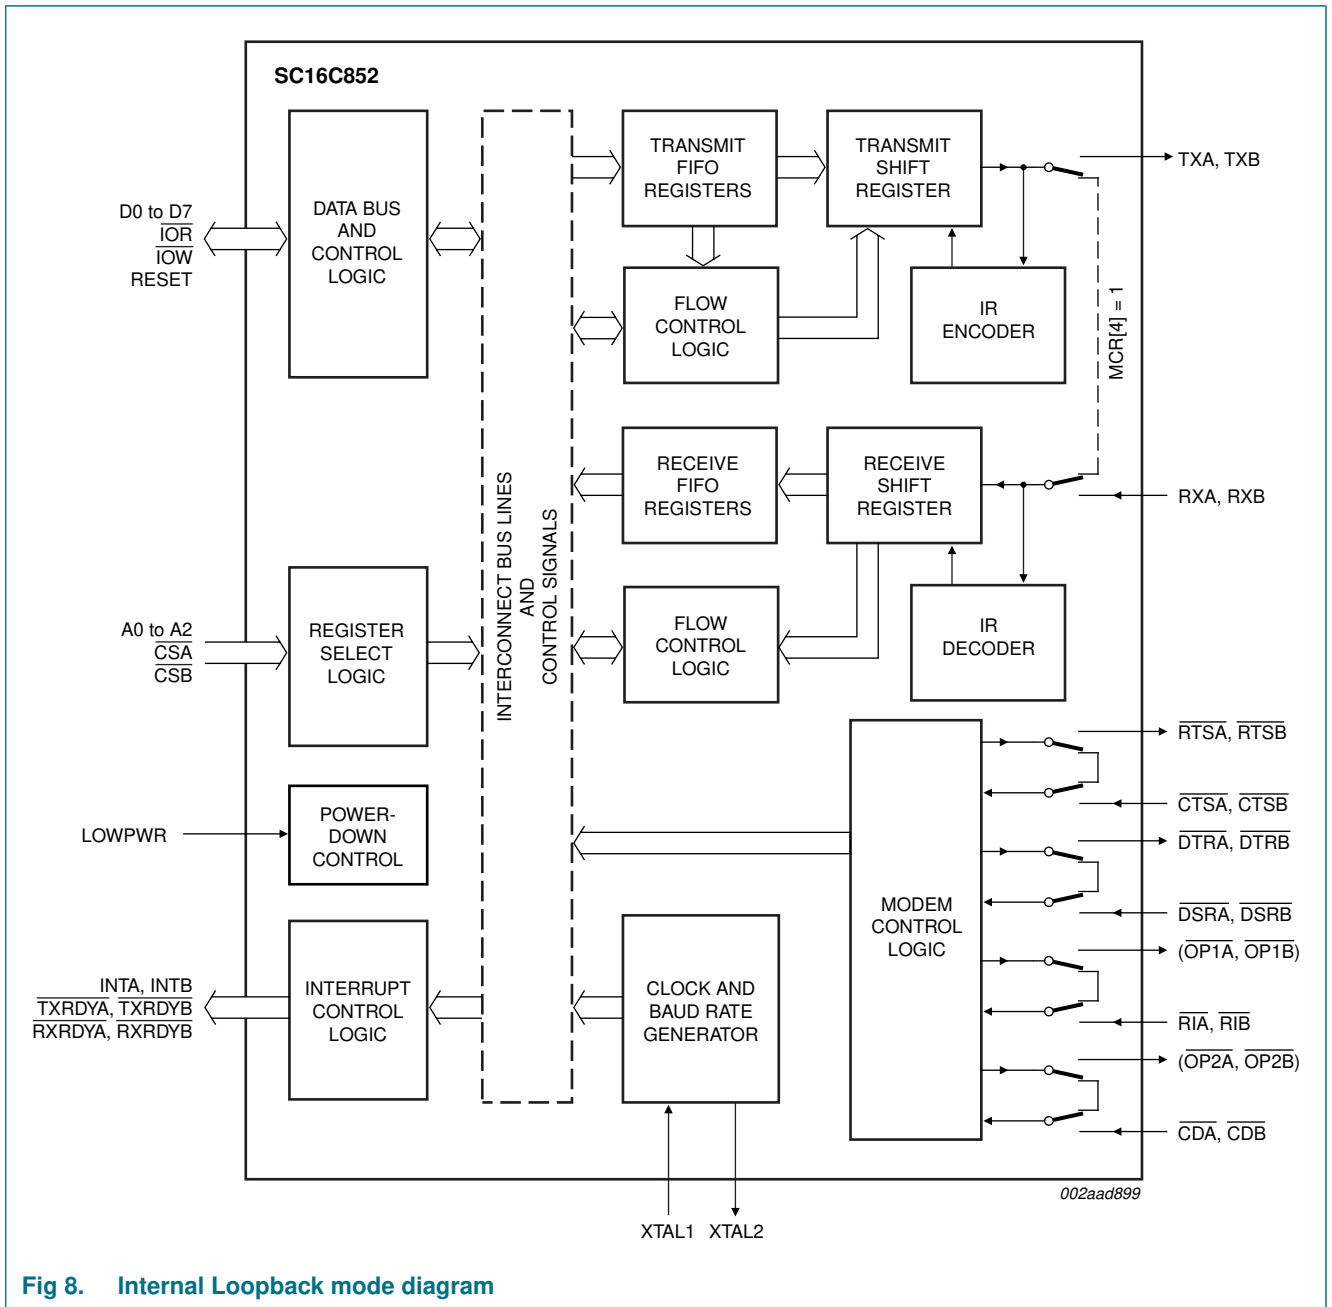

Fig 8. Internal Loopback mode diagram
The internal loopback capability allows on-board diagnostics. In the Loopback mode, the normal modem interface pins are disconnected and reconfigured for loopback internally (see Figure 8). MCR[3:0] register bits are used for controlling loopback diagnostic testing. In the Loopback mode, the transmitter output (TX) and the receiver input (RX) are disconnected from their associated interface pins, and instead are connected together internally. The $\overline{\text{CTS}}$, $\overline{\text{DSR}}$, $\overline{\text{CD}}$, and $\overline{\text{RI}}$ are disconnected from their normal modem control input pins, and instead are connected internally to $\overline{\text{RTS}}$, $\overline{\text{DTR}}$, MCR[3] ($\overline{\text{OP2A}}/\overline{\text{OP2B}}$) and MCR[2] ($\overline{\text{OP1A}}/\overline{\text{OP1B}}$). Loopback test data is entered into the transmit holding register via the user data bus interface, D[7:0]. The transmit UART serializes the data and passes the serial data to the receive UART via the internal loopback connection. The receive UART converts the serial data back into parallel data that is then made available at the user data interface D[7:0]. The user optionally compares the received data to the initial transmitted data for verifying error-free operation of the UART TX/RX circuits.